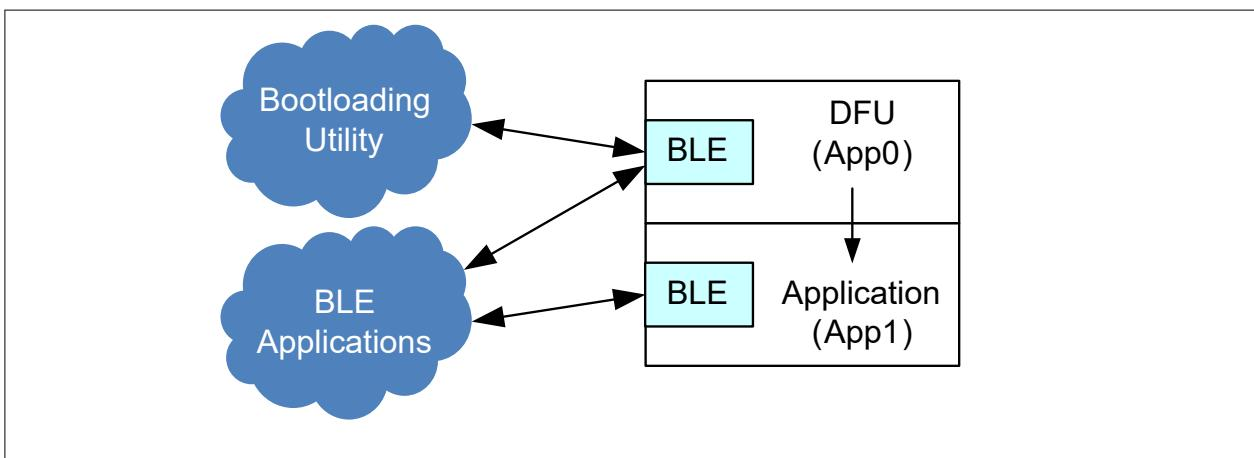
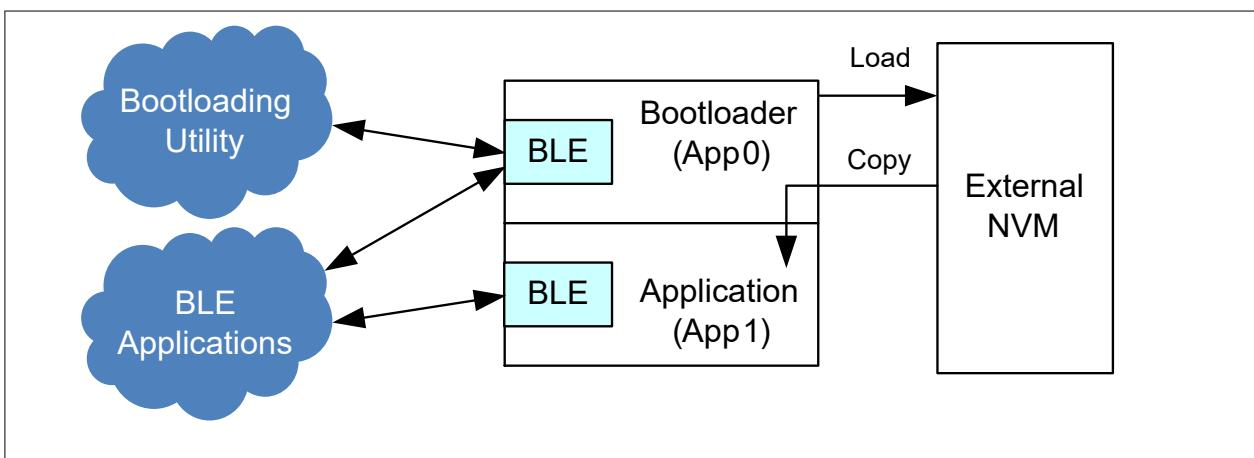

Figure 584 Data and control flow for CE216767
Figure 585 Data and control flow for CE220959
- CE216767 downloads a new application directly into flash, as Figure 584 shows
- CE220959 downloads a new application into temporary storage in an external NVM (kit IC U4, Cypress 512-Mbit serial NOR flash), and then copies it to its final destination in the PSoC™ 6 MCU device flash, as Figure 585 shows
- The bootloader (App0) and the application (App1) each have their own separate copy of the BLE stack code, as Figure 584 and Figure 585 show. Each copy occupies more than 128 KB of flash